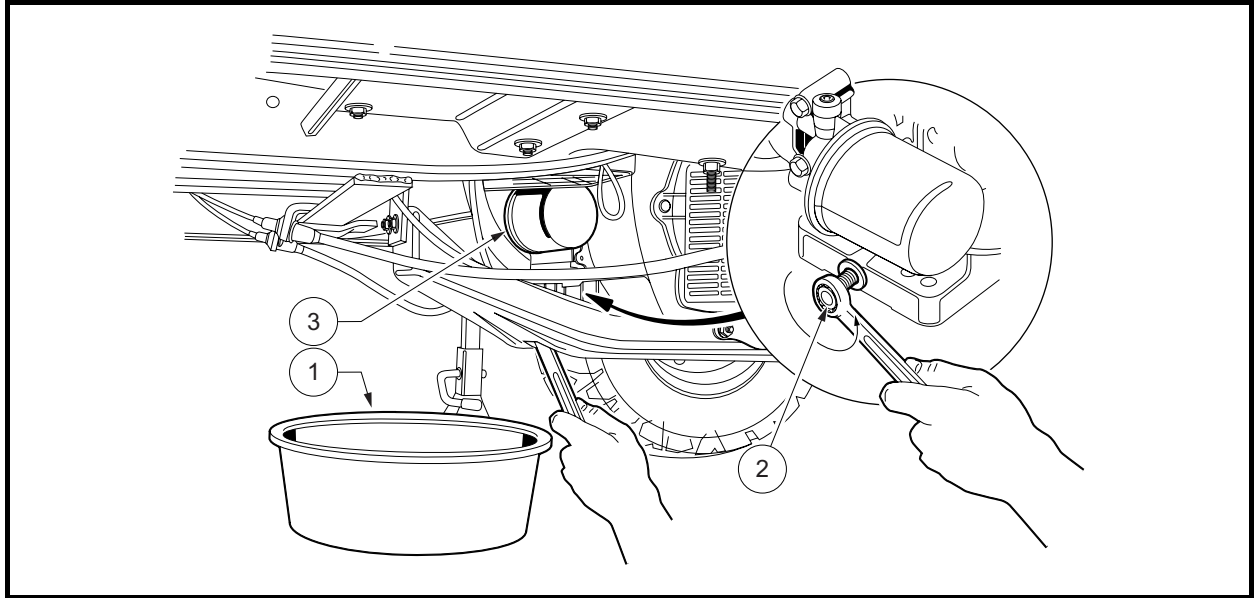

Figure 10-5 Engine Oil Drain Plug and Pan
4. Position a pan designed for oil changes under the front drain plug (**Figure 10-5, Page 10-8**).
8. Relocate the oil drain pan to a position under the engine oil filter (**Figure 10-5, Page 10-8**).
NOTE: An oil drip guard can be used to prevent excess oil from dripping into the engine base plate. Use an empty quart (one liter) container and cut the bottom off at an angle, then slide the open area of the container up and under the oil filter prior to removing. Position the port of the plastic container so oil will be directed into the oil pan (**Figure 10-5, Page 10-8**). Or, make a drip guard by folding a piece of cardboard, thin metal, or plastic under the oil filter forming a channel to direct the filter port oil into the drain pan.